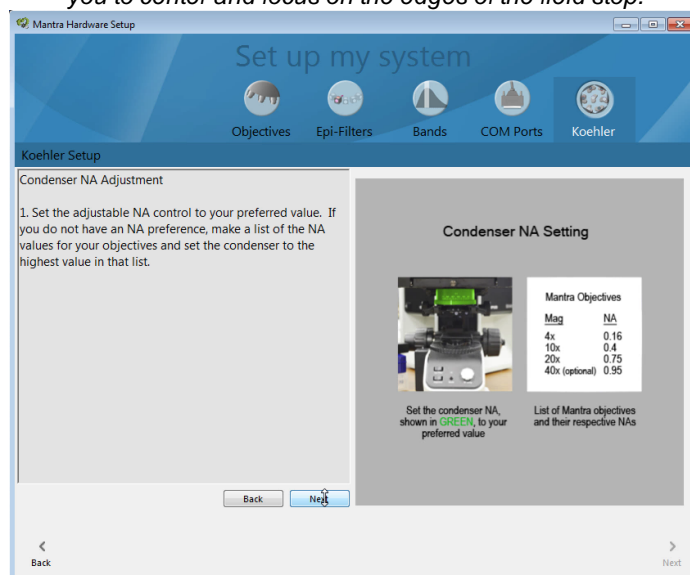

Figure 53. Step 3 of the Koehler alignment procedure requires you select an optimal condenser NA setting.
Step 3. Set the condenser numerical aperture (NA) to your preferred value (highlighted in green in Figure 53). If you do not have a preference, a list is provided of the NA values for your objectives. Akoya Biosciences recommends first trying the highest value in the list.